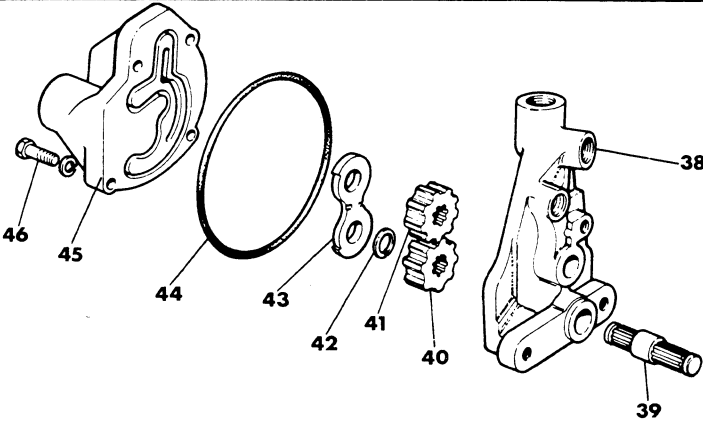

FIG. 6
2. Fig. 6. Remove the four bolts (46) from the end plate, then remove the end plate (45) and seal (44).
3. Remove the pressure plate (43) from the body (38).
4. Remove the gears (40 and 41) from the body, then remove the circlip (42) and slide the drive gear (40) off the shaft (39).